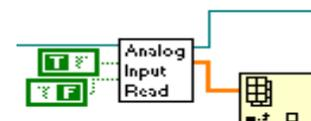

FIGURE 11 – ANALOG INPUT SETTINGS AND INDEX ARRAY
- Returning to the “Analog Input Read” block, right-click the “Channel 1 Data” terminal, then select “Array Palette” → “Index Array”. Place this block just to the right, and wire its “array” terminal to the “Channel 1 Data” terminal (Figure 11). Since the “Analog Input Read” block is also used when acquiring large arrays of data (as in the case of the oscilloscope example program), the single point voltage we are interested in must be picked out of the array using the “Index Array” block. Right-click the “element” terminal on the right side of this block and select “Create” → “Indicator”. Label this indicator as “Voltage”.